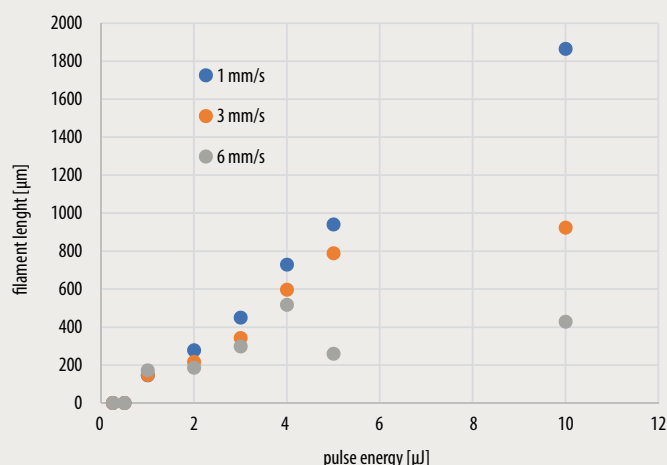

Fig. 4 Dependence of the filament length on the pulse energy for different feed rates at 1 MHz repetition rate.
At first, the pulse energy was varied over multiple samples under constant geometrical conditions. Fig. 4 shows the results regarding the length: our first observation was the clear onset of self-focusing at about 1 μJ independent of the feed rate v_{scan} . This is in accordance with self-focusing threshold calculated via Eq. (1):
seems to be almost linear up to a certain scanning speed, as depicted in Fig. 4.
Fig. 4 also shows that the filaments do not reach their full possible length when the scanning speed is too high. We propose the following reason for this behavior: while the beam path and the plasma channel are similar for the first laser pulse and later pulses, the upper part of the plasma channel absorbs more energy since the pulse energy decreases along the beam path. Because of this, the glass lattice in the upper part of the plasma channel heats up more rapidly than in the lower part. When the feed rate is too high, too few pulses are irradiating this one channel, so that the heat accumulation in the lower part of the filament is not sufficient to reach the melting temperature. From the perspective of energy, one could simply say that the power input per unit length has to be high enough to melt the entire plasma channel volume and not just the upper part of it.